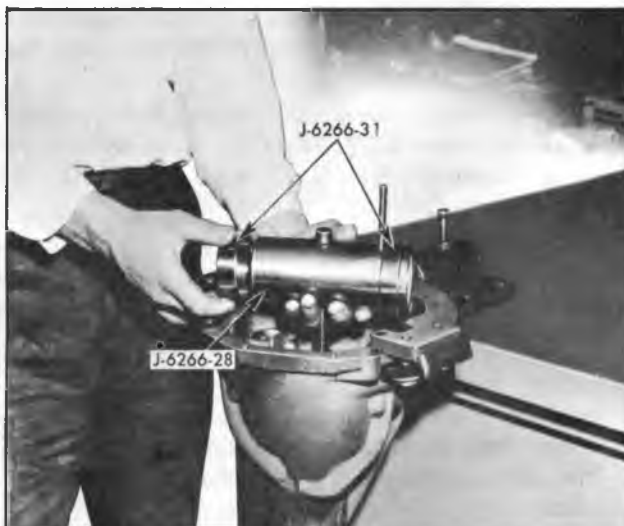

Fig. 15C--Installing Gauge Barrel
5. Carefully slide Adapter Rings J-6266-31 over Gauge Barrel J-6266-28 and place barrel assembly in differential bearing bores. See Figure 15C. Plunger on barrel must rest on lowest step of Gauge Plate J-6266-53.